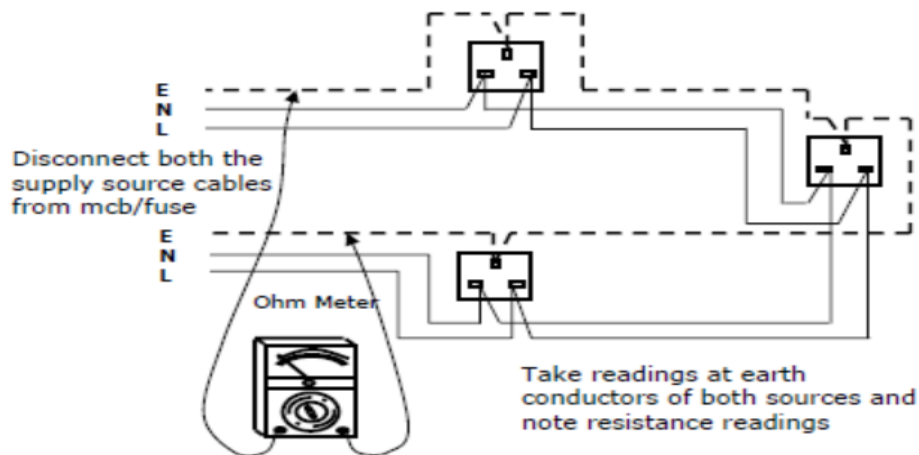

Figure 2.2 - Final Ring Circuit Conductor Continuity Test
- Connect the test leads as in the Figure 2.2 (EE); E-earthing